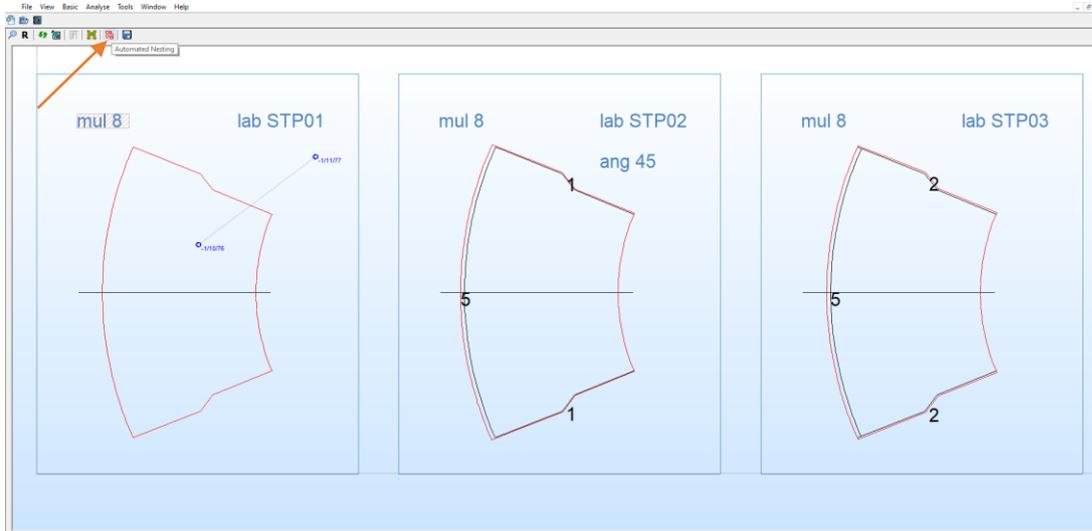

Figure 155
13. **Automated Nesting:** Back in the Standard Viewer try nesting our corrected file again. Therefore let's click on the nest button  in the Main Toolbar (Figure 155).